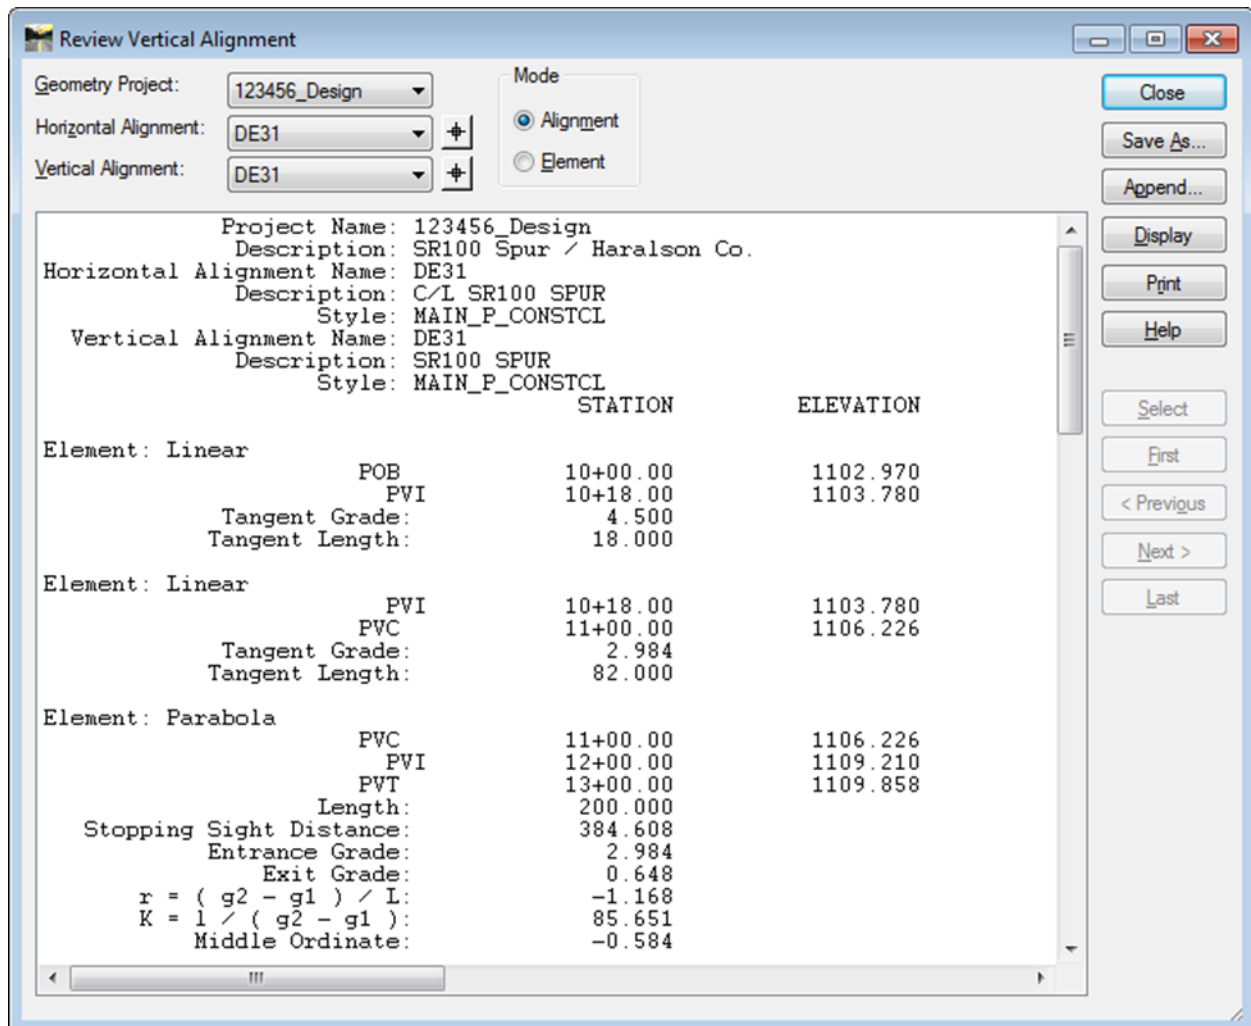

Figure 4-1 Review Vertical Alignment
- The user may also print the description by using the Print button on the **Review Vertical Alignment** dialog. (See *Figure 4-1*).